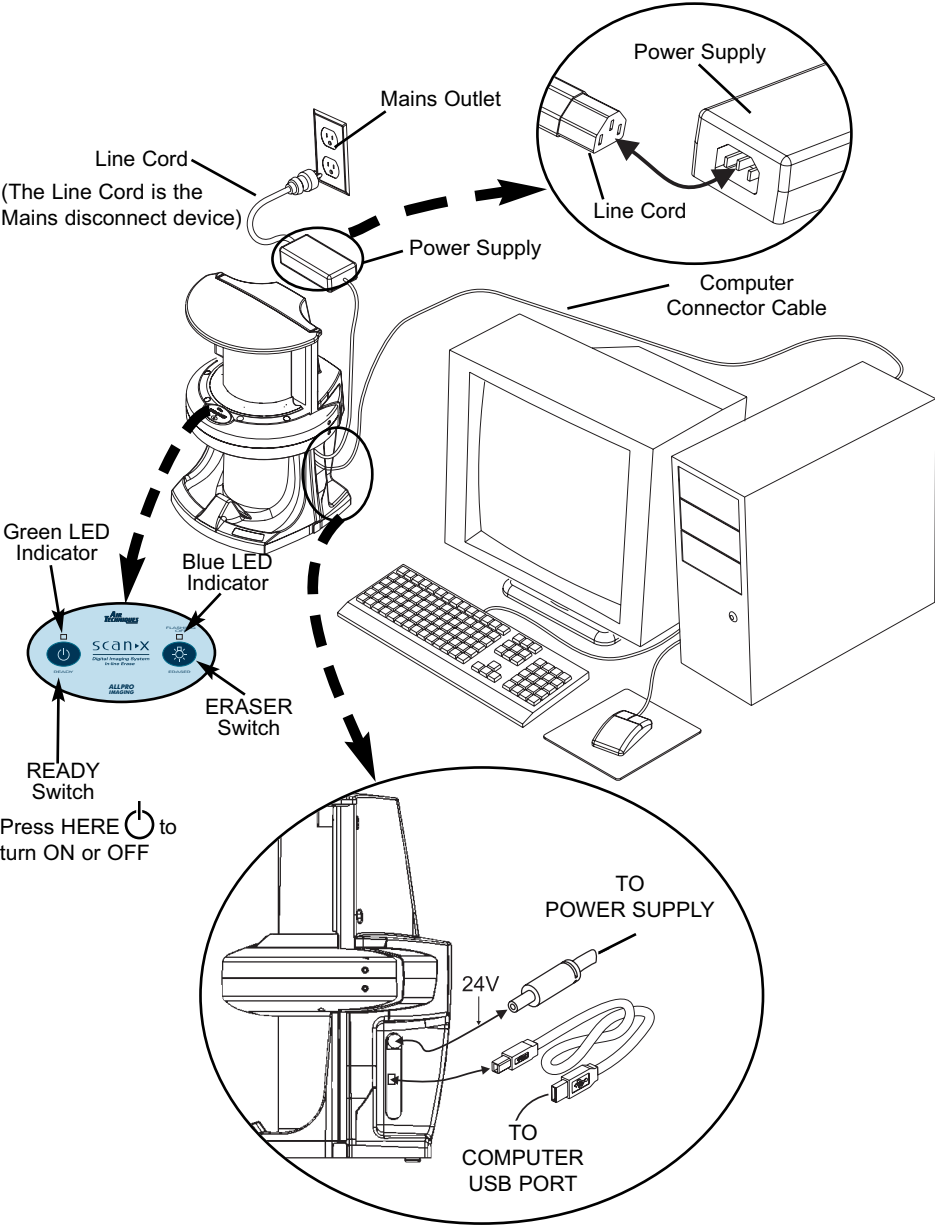

Figure 1. Typical ScanX Installation
Refer to Figure 1 and perform the following procedure to connect the ScanX for operation for the first time.
1. Make sure the ScanX and computer components are correctly connected as shown in Figure 1.